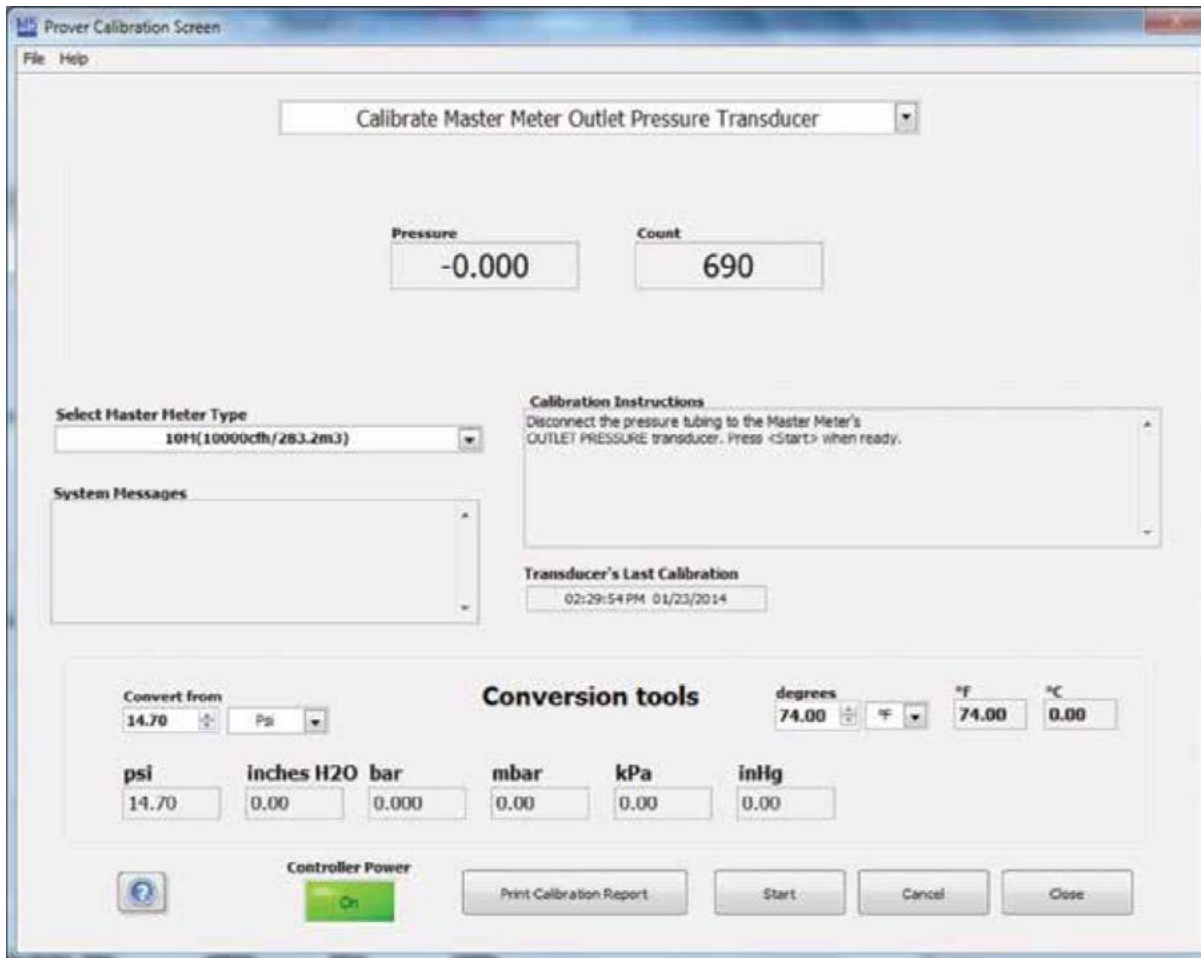

Figure 33: Select Calibrate Master Meter Outlet Pressure Transducer
- From the Prover Calibration Screen, select the pull down arrow and click “Calibrate Master Meter Outlet Pressure Sensor.” Refer to Figure 33.